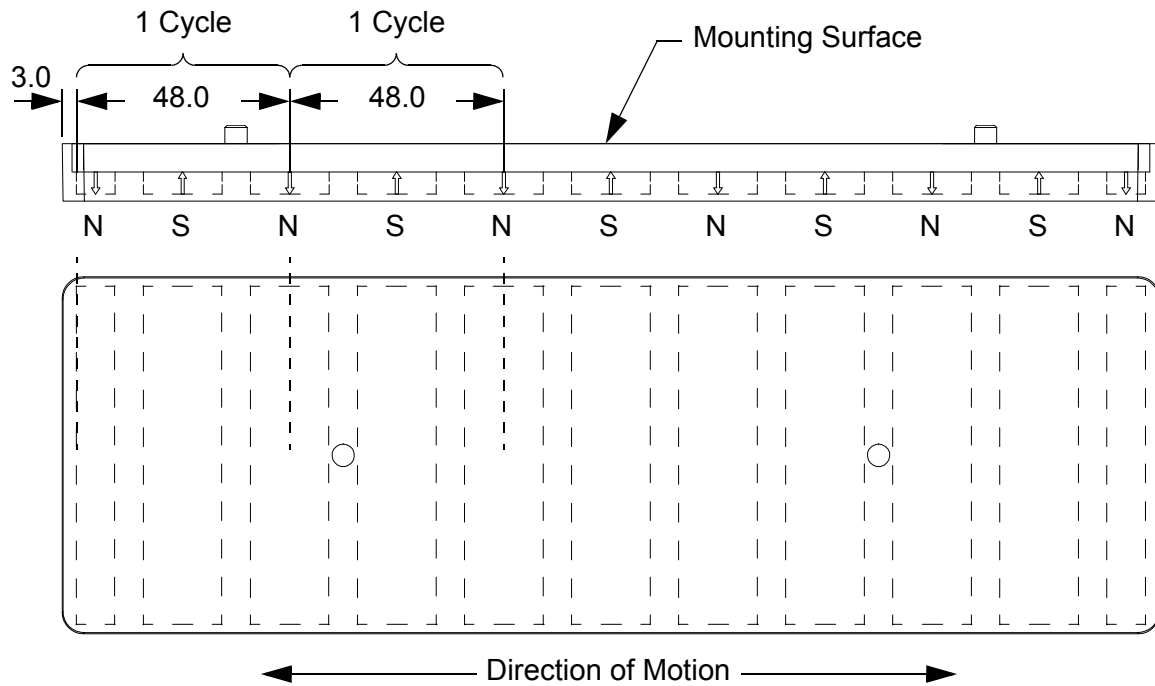
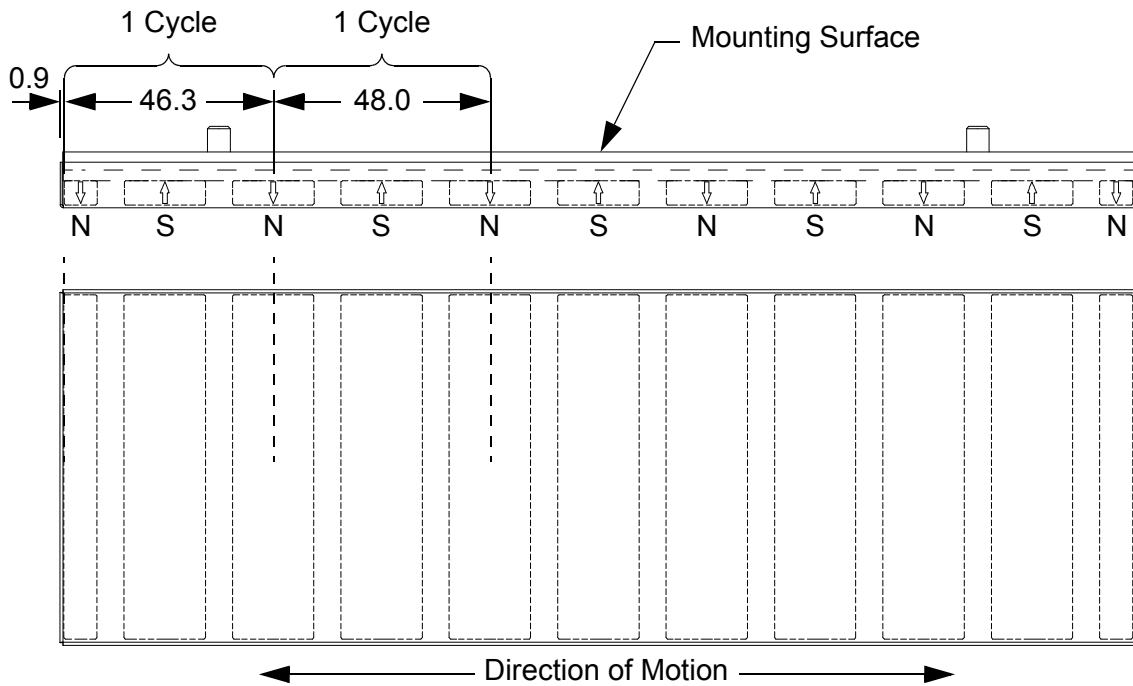

Figure 3-11: Standard Potted Magnet Array, 5 Cycles, 11 Poles
Figure 3-12: Standard Covered Magnet Array, 5 Cycles, 11 Poles
- The distance from the edge of a half North oriented magnet to the center line of a full North oriented magnet as shown in Figure 3-11 and Figure 3-12.
- The distance from the center line of one full North oriented magnet to the centerline of the next full North oriented magnet as shown in Figure 3-11 and Figure 3-12.
The number of poles in a magnet array is simply the number of North and South-oriented poles in the magnet array. The number of poles is always an odd number (see Figure 3-11) as it includes the half magnets at each end of the array. The number of poles can also be calculated from the number of cycles ( $cycles * 2 + 1$ ).
version and in a stainless steel covered version that is replacing the epoxy potted version. The stainless steel covered arrays are fully backwards compatible with the potted arrays and provide a one-for-one replacement for the potted arrays. Both magnet array styles come in several lengths and widths, with full magnets of alternating polarity in the middle of the array and a North oriented half magnet at each end of the array. Orientation of the magnets is referenced to the surface facing the motor as shown in Figure 3-11 and Figure 3-12.